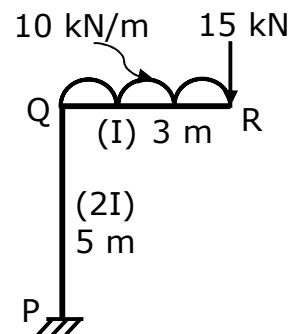

Fig. 3
- (b) Using unit load method, find horizontal and vertical displacement at R of frame as shown in fig. 3. Take $E = 2 \times 10^5 \text{ N/mm}^2$ and $I = 2 \times 10^8 \text{ mm}^4$ **07**